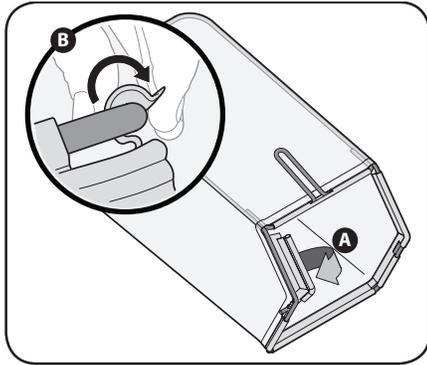

Figure 2-4
1. Follow steps below to assemble the grass catcher (if needed). Make certain bag is turned right side out before assembling (warning label will be on the outside). See Figure 2-4.